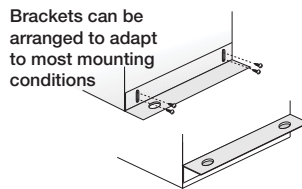

Figure 5 — Mounting Brackets
2. Attach adjustable mounting brackets to fan, but leave the screws loose until proper height is determined, shown in Figure 5.